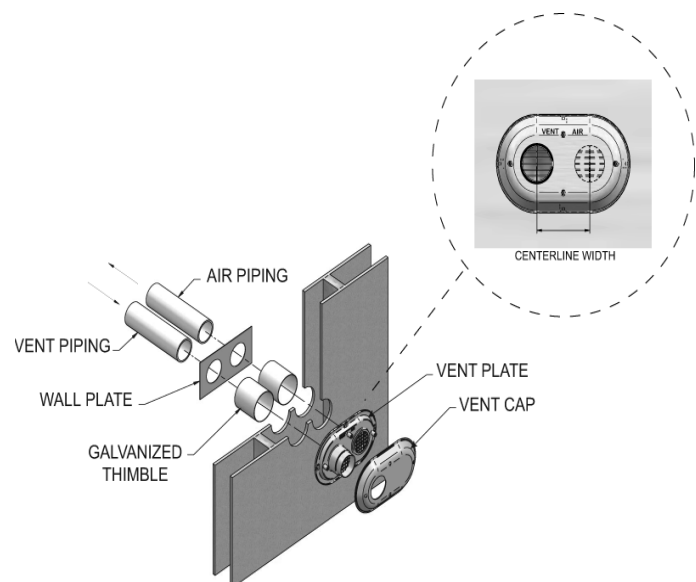

Figure 30. Sidewall Termination Assembly
6. Assemble the vent cap to the vent plate (see Figure 30). Insert the stainless steel screws into the vent cap screw hole openings and securely attach the vent cap to the vent plate.